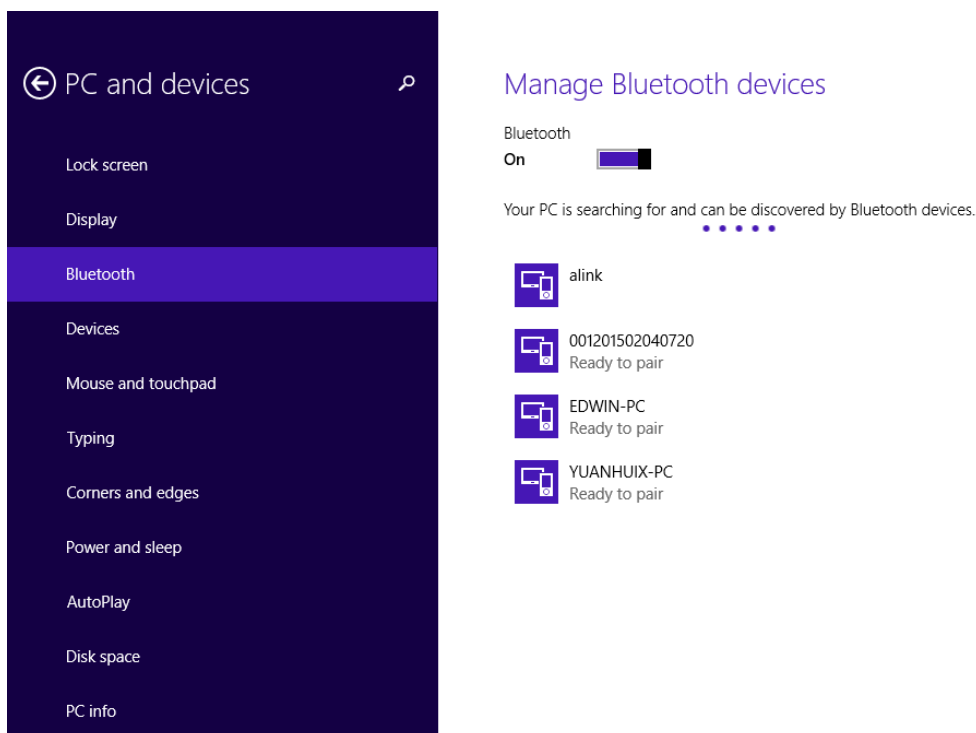

Figure 10 Find ALX410 Bluetooth name
Step 1: Select ALX410 Bluetooth name, shown as Figure 10.